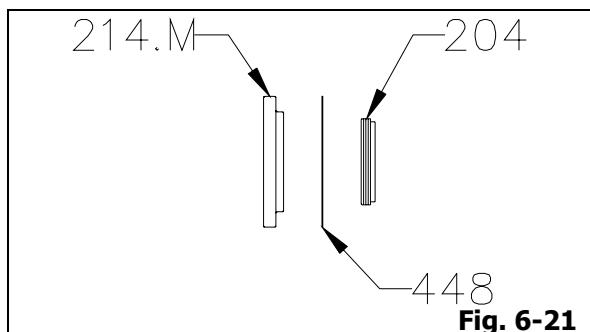

Fig. 6-21
- Remove end ring gasket (448) and stationary portion of pump end mechanical seal (204) gently from end ring for mechanical sealing (214.M) (Fig. 6-21).